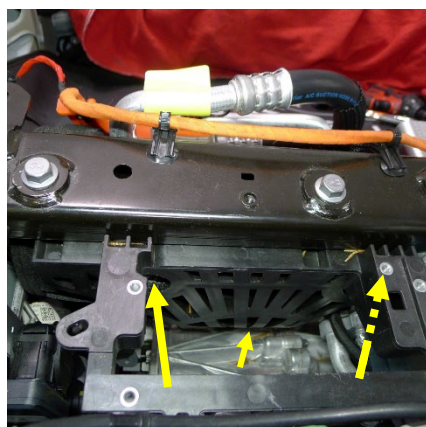

Figure 38
30. With the help of an assistant to support the weight of the A/C compressor, install the bolts (x3) that attach the A/C compressor to the A/C compressor bracket (Figures 38 and 39) (torque 9 Nm).